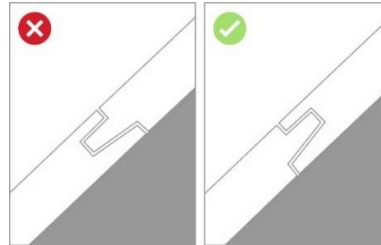

Figure 8
2. Start with a full size panel A1 from the left or right eave level and fasten the long side perpendicular to rafters. Make sure that the tongue is pointing to the ridge (figure 8) and that the stamp “This side down” is facing the rafter.